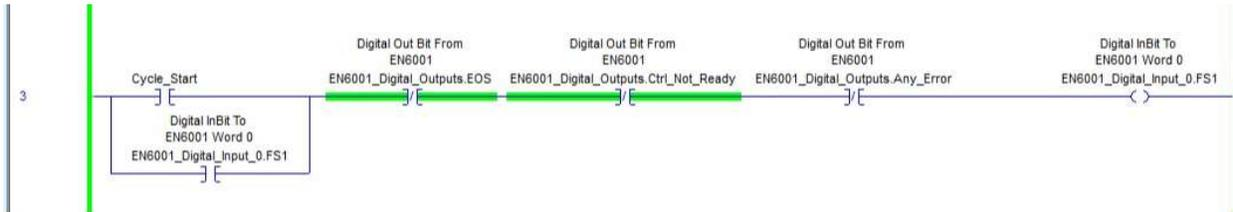

Figure 12 Example Rung
2.2.5. Refer to Figure 12 to see how some of the tags created above are used to control the EN6001. The Cycle Start tag is not part of the EN6001. It is shown to represent the user's logic.